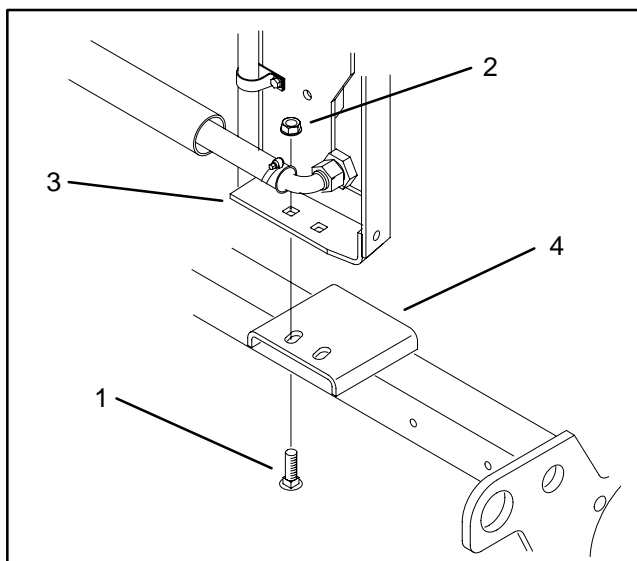

Figure 23
- C. Remove carriage bolts (1) and whiz nuts (2) from the radiator bracket (3) and frame (4) (Fig. 23).
C. Reinstall engine (25) onto the frame. Make sure fastener holes of the mount brackets (22, 34, and 46) are aligned with the holes on the frame.
D. Secure cap screws (42) and flange nuts (27) to the mount brackets (22, 34, and 46) and frame.
E. On the right rear mount bracket (46), tighten cap screws (36). Torque cap screws from 34 to 42 ft-lb (4.7 to 5.8 kg-m).
D. Install carriage bolts (1) and whiz nuts (2) to the radiator bracket (3) and frame (4) (Fig. 23).